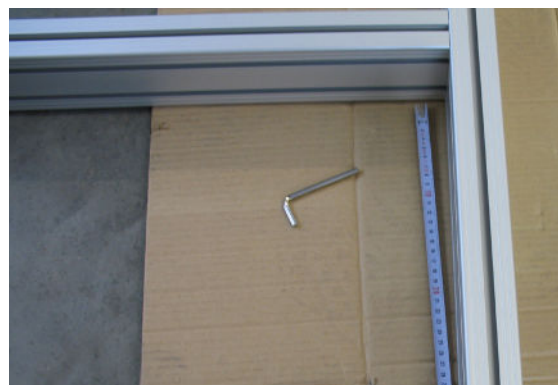

Fig. 3.1-6
Step 5 Measure the distance between the profiles **A1c** and **A1d**. The distance from each inner edge to inner edge must be 42 cm. When the frame base profiles **A1c** and **A1d** have been attached at the correct distance, all the remaining profile connectors can also be firmly screwed in (approx. 25 Nm) (Fig. 3.1-6).